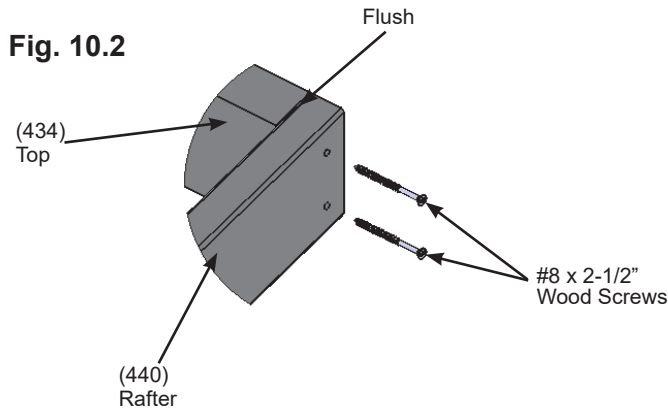

Fig. 10.1
- A:** On each side of one (434) Top place one (440) Rafter so the tops and edges are flush then attach with two #8 x 2-1/2" Wood Screws per side. (Fig. 10.1 and 10.2)
- B:** Place Large Fascia Beam Assembly from Step 7B on the bottom of (440) Rafters so the sides are flush and holes are centred on the (440) Rafters then attach with two #8 x 2-1/4" Wood Screws per (440) Rafter. (fig. 10.1 and 10.3)